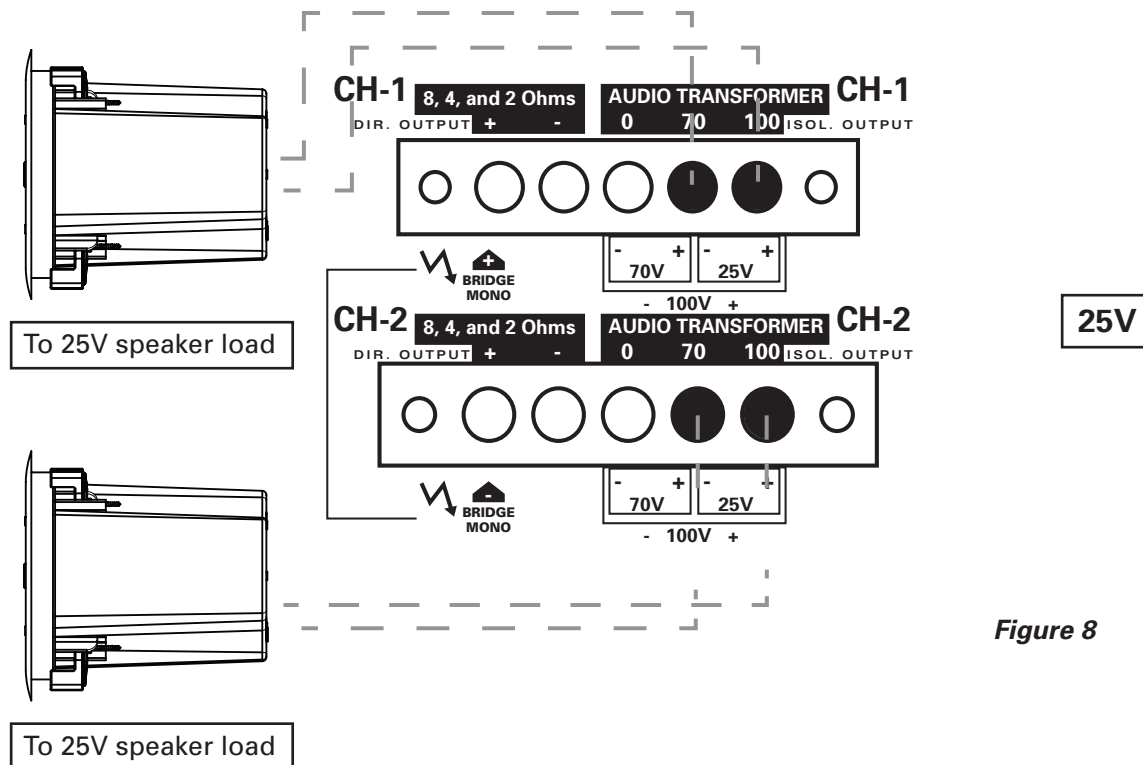

Figure 8
The amplifier will drive constant voltage speaker loads for use in commercial business music/paging systems and sound masking systems. The use of spade lugs for terminating and connecting the speaker home runs is recommended. The speaker line common connects to the “0” terminal and the positive lead connects to the desired voltage for required system requires for proper operation (Figures 8,9,10; Pages 11-12).
- **25V** - Connect the positive speaker lead to the terminal labeled "100" and the negative speaker lead to the terminal labeled "70" (Figure 8).